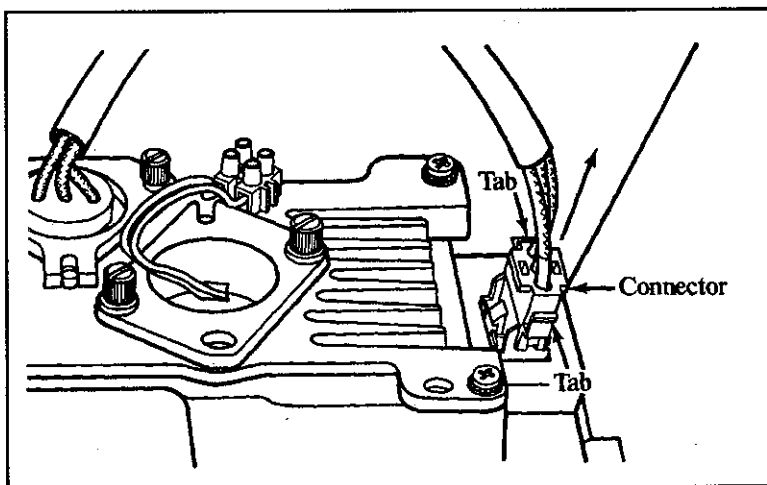
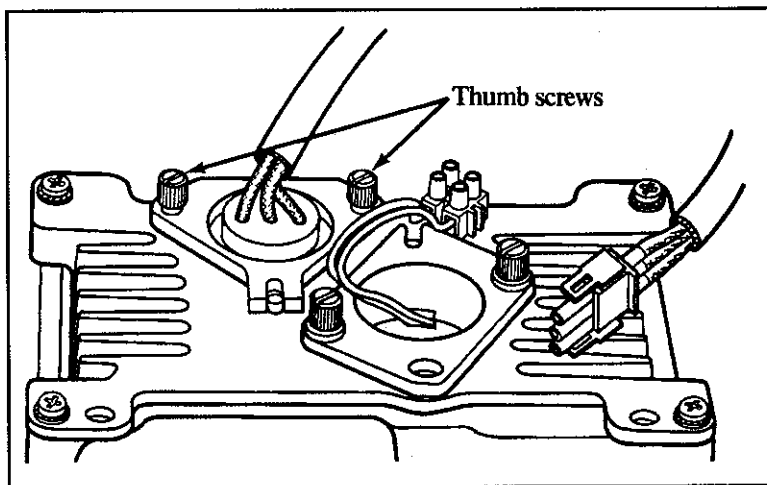

Figure 12-4.
Figure 12-5.
3. To unplug the connector for the UV source, squeeze on the tabs on the sides of the connector, then pull up to release. See Figure 12-4.
4. Unscrew the two thumb screws which hold the UV source in position. See Figure 12-5.
6. Unpackage the new source, being careful not to touch the glass envelope on the source. Carefully push the new source straight down, until it is seated flat against the source housing. Secure by tightening the two thumb screws, shown in Figure 12-5. Plug in the connector, shown in Figure 12-4.